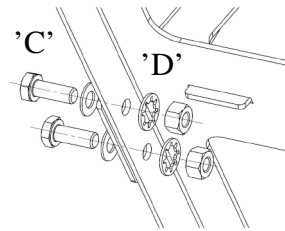

Fig. 5
4. Line up the holes between the base half and top halves and replace the screws and washers on the outside 'C' and the serrated washers and nuts 'D' on the inside of the base and fully tighten as shown in Fig. 5.